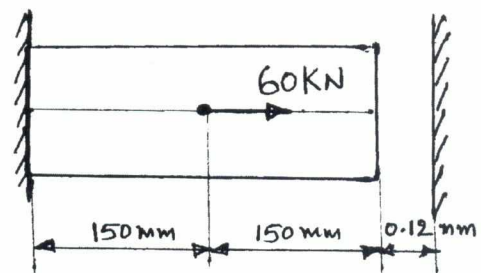

Fig.Q4(b)
- b. Determine the nodal displacements, reactions and stresses for the Fig. Q4(b) using Penalty approach. Take  $E = 210$  GPa, Area = 250 mm2. (10 Marks)